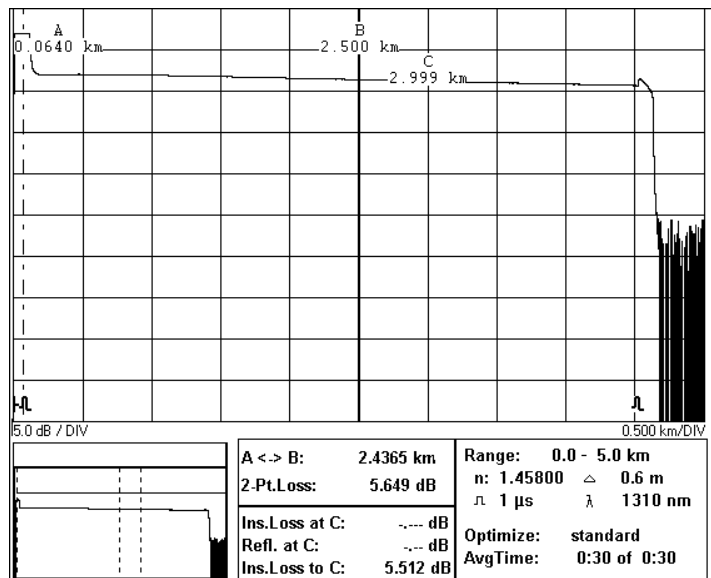

Figure D-14 Loss Accuracy Test: Position Marker B
- 12 Position marker B about in the middle of the backscatter. Note the position of marker B. See Figure D-14.